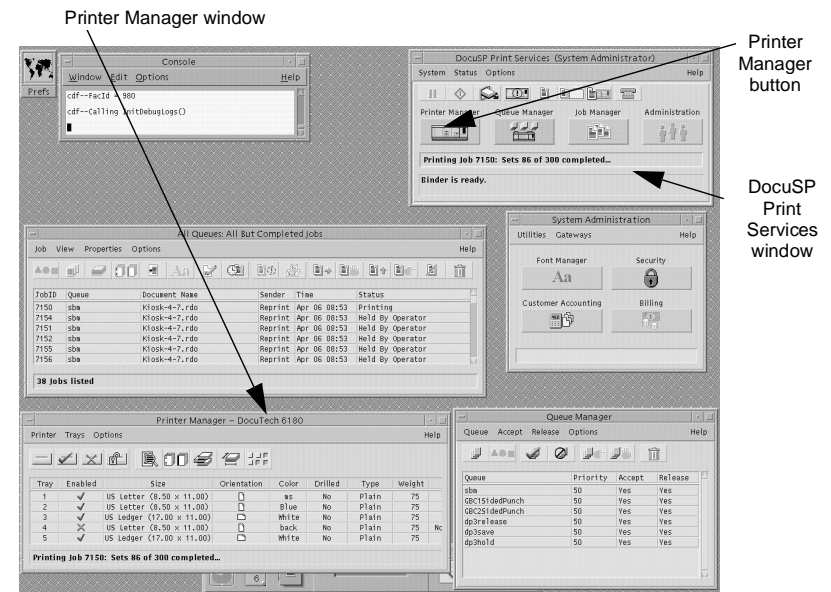

Figure 6-12 DocuSP Monitor and Printer Manager window
1. From the DocuSP Monitor, go to the **Printer Manager** window, as shown already open in Figure 6-12. If it is not open, go to the DocuSP Print Services window and click the Printer Manager button.